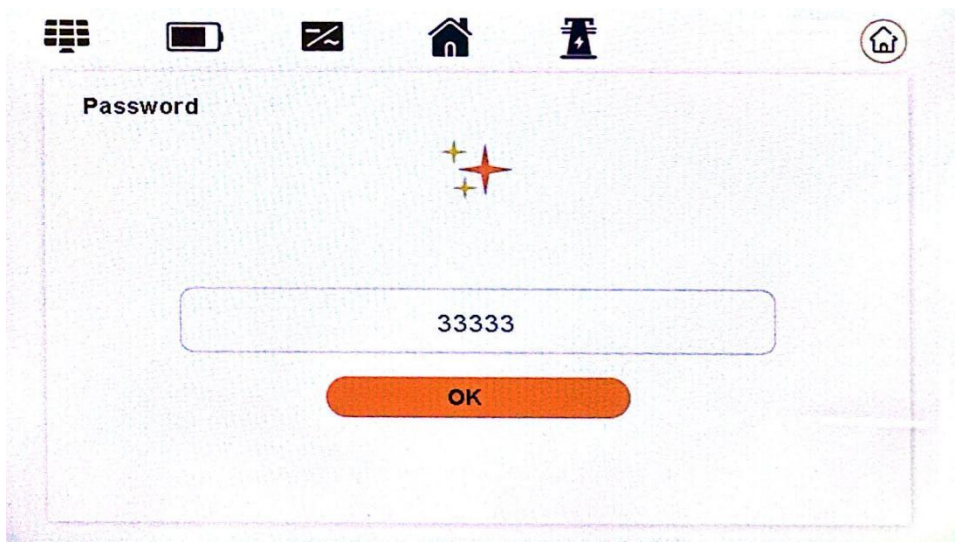

Figure 10-2
2.Click the setting icon in the upper left corner of the LCD screen to enter the password input interface, enter the password "33333", and click ok, as shown in Figure 10-2: